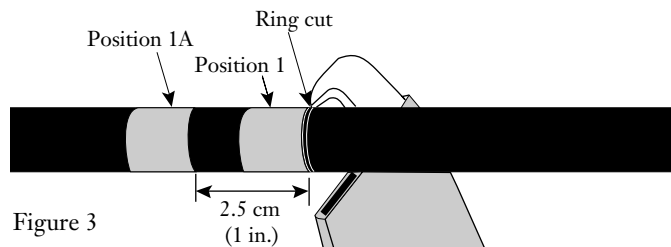

Figure 3
5.1 Using a hook blade knife, make a ring cut through the outer sheath of the cable at the tape mark at "Position 1." Use care to avoid damaging the inner sheath (Figure 3).